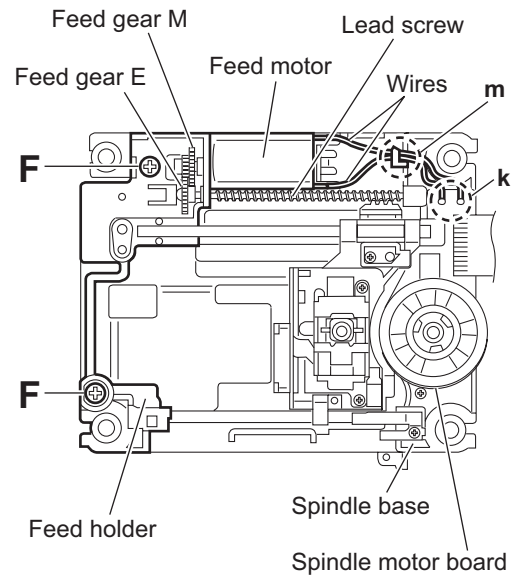

Fig.11
- (3) Remove the wires from the soldered section **k** on the spindle motor board. (See Fig.11.)
When attaching the feed motor, pass the wire through the section **m** on the spindle base. (See Fig.11.)
- (4) Remove the feed holder, feed motor, lead screw, feed gear E and feed gear M at the same time after removing the two screws **F** attaching the feed holder. (See Fig.11.)
3.3.7 Removing the spindle motor board (See Figs.11 and 13)
- (1) From the top side of the traverse mechanism assembly, remove the wires from the soldered section **k** on the spindle motor board. (See Fig.11.)